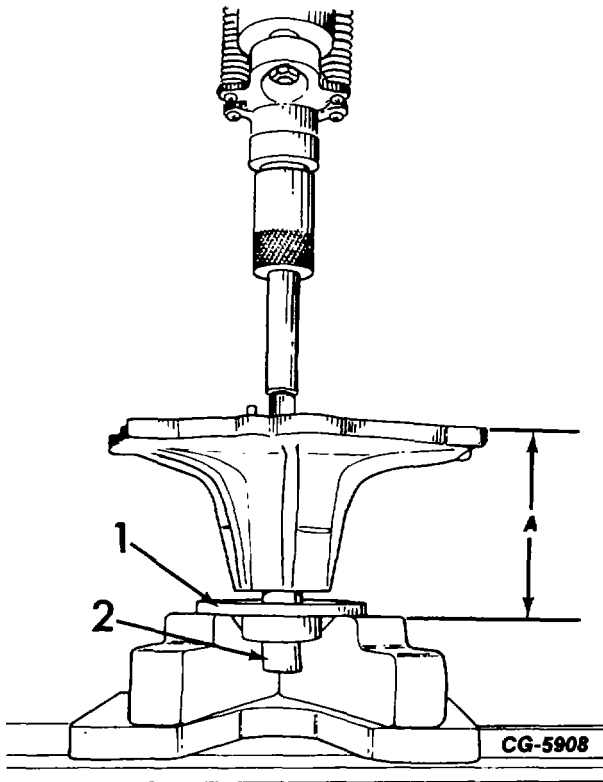

Figure 10. - Installing Fan Hub
4. Support pump on front end of shaft (Fig. 10).
- a. Support hub (1, Fig. 10) and press shaft (2) through hub.